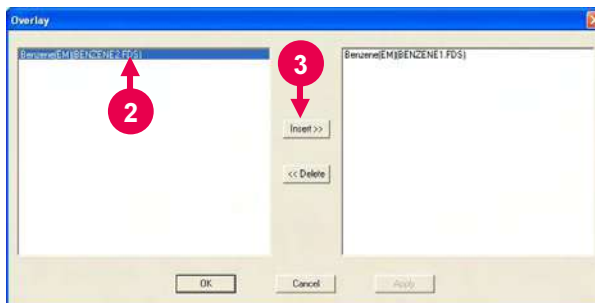

Fig. 7-20
- (4) Select a sample name from the left box. The selected sample name will be highlighted in blue. (Refer to ② in Fig. 7-20.)
- (5) Click the **Insert >>** button. (Refer to ③ in Fig. 7-20.)